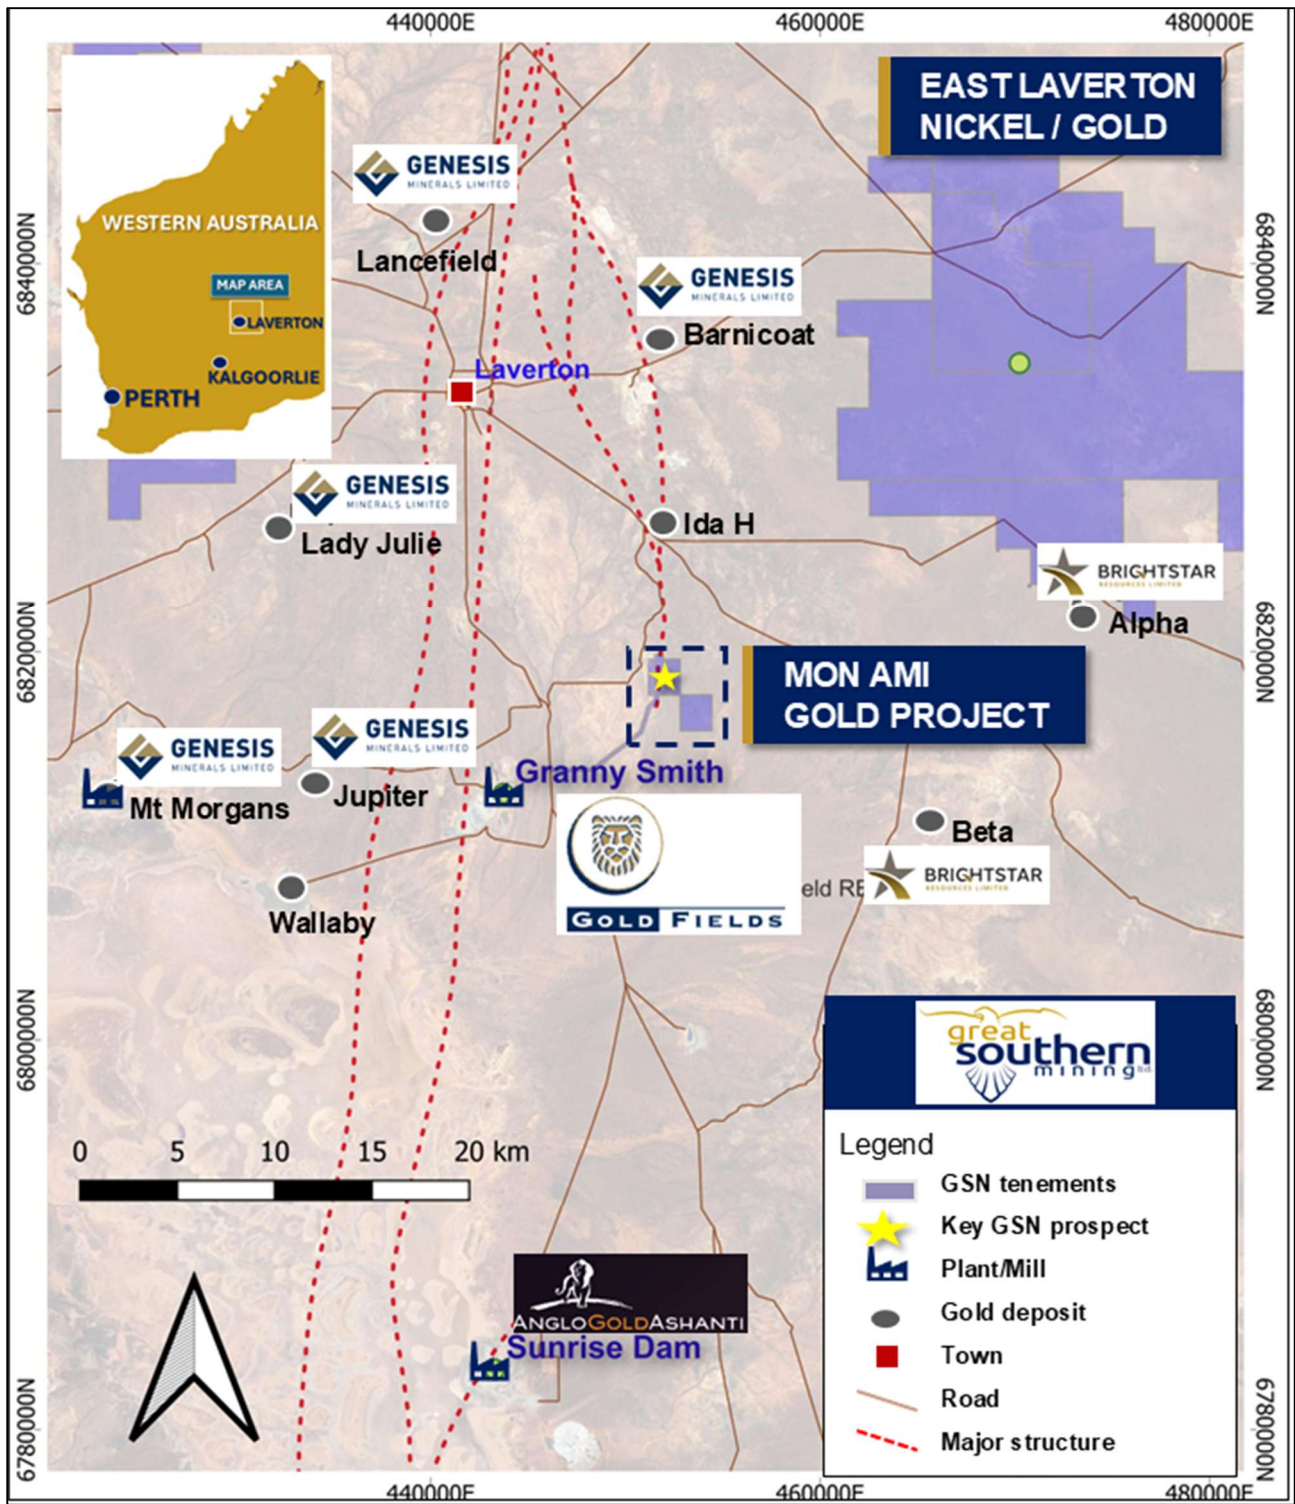

Figure 6. Location of the Mon Ami Gold Project showing its proximity to the town of Laverton and existing and planned gold processing facilities.
- Assay results have been received for the first six holes from a 16-hole (3,089m) Reverse Circulation (RC) drilling program at the 100% owned Mon Ami Gold Project, located 12km south of Laverton
- **Mon Ami is located within close trucking distance of multiple operating and planned gold plants** in the Laverton District (see Figure 6)
Great Southern Mining Limited (“GSN” or the “Company”) has received assay results for the first six of 16 RC (3,089m) holes recently completed at the Mon Ami Gold Project (“Mon Ami”) located 12km south of the town of Laverton in Western Australia, and approximately 12km east of the Granny Smith gold processing facility (see Figure 6 below).
GSN considers Mon Ami to be a potential near-term development opportunity given its proximity to numerous operating and planned gold processing facilities, all within a 50km trucking radius (Figure 6).